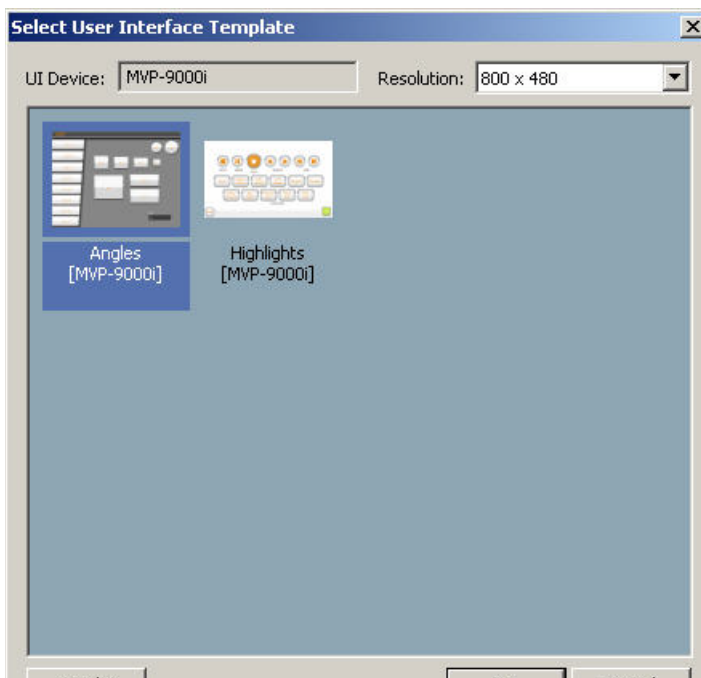

FIG. 140 Select User Interface Template dialog
5. Select the **Template** to use on the duplicate panel. Click the Browse (...) button to view thumbnails of all available templates in the *Select User Interface Template* dialog (FIG. 140).